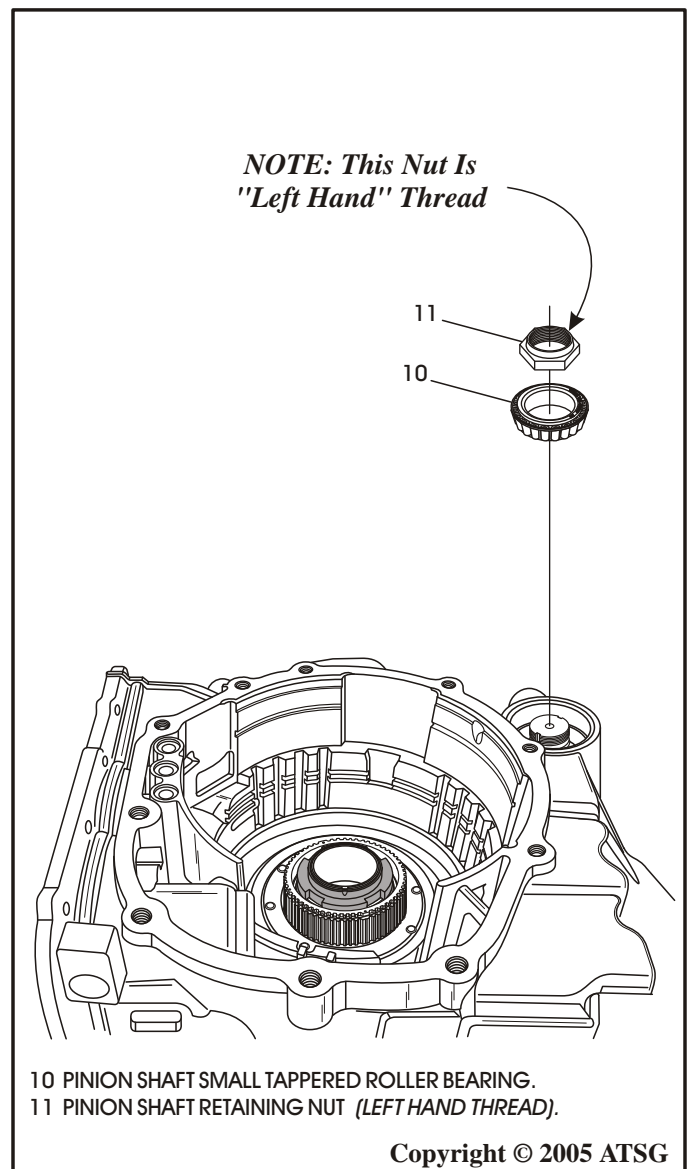

Figure 55
71. Remove pinion shaft lock nut using a 41 mm socket, as shown in Figure 55.
72. Remove the pinion shaft and the small tapered roller bearing, as shown in Figure 55.